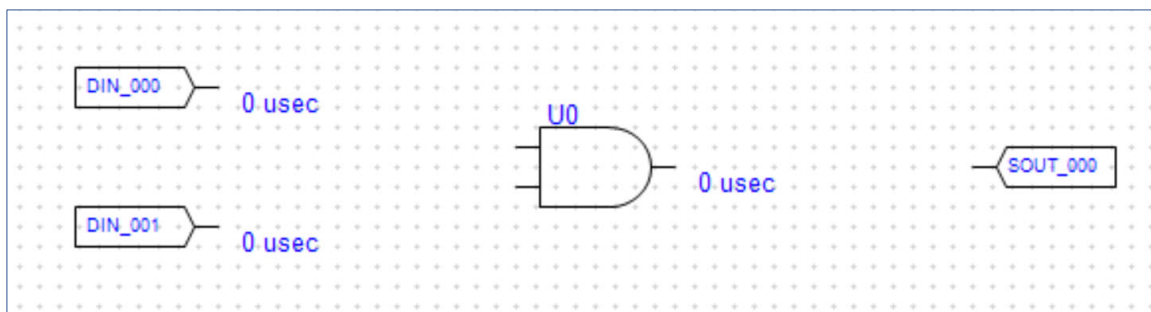

Figure 37 -Blocks Placed & Arranged
- 1) Place and arrange the required blocks as shown in Figure 37 -Blocks Placed & Arranged. Sections 5.1-5.3 provide further detail on placing, selecting, and moving blocks.